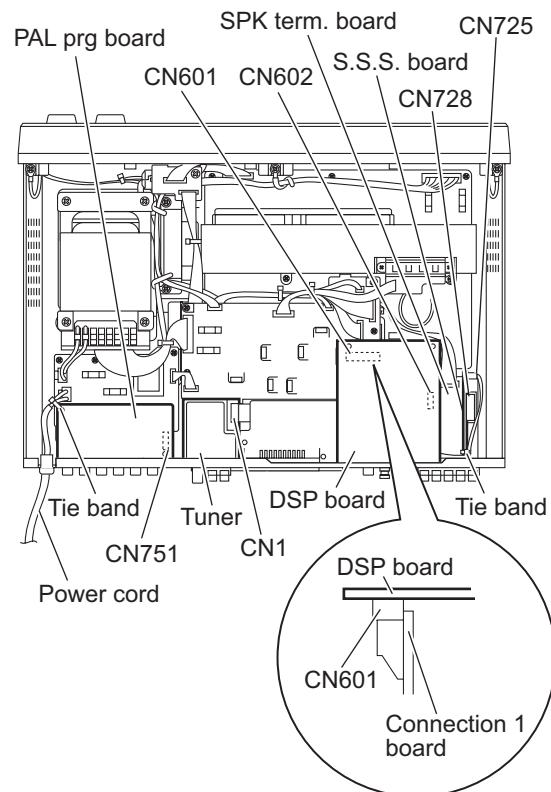

Fig.7
(See Figs. 7 and 8)
(1) From the top side of the main body, disconnect the card wire from the connector CN1 on the tuner. (See Fig.7)
(2) From the top side of the main body, remove the tie band fixing the power cord. (See fig.7.)
After reassembling, fix the power cord with a new tie band as before. (See Fig.7.)
(3) Take out the PAL prg board and disconnect the card wire from the connector CN751 on the forward side of the PAL prg board. (See Fig.7)
(2) From the top side of the main body, disconnect the connector CN601 on the DSP board from the connection 1 board. (See Fig.7)
(3) Take out the DSP board and disconnect the card wire from the connector CN602 on the forward side of the DSP board. (See Fig.7)
(See Fig 7)